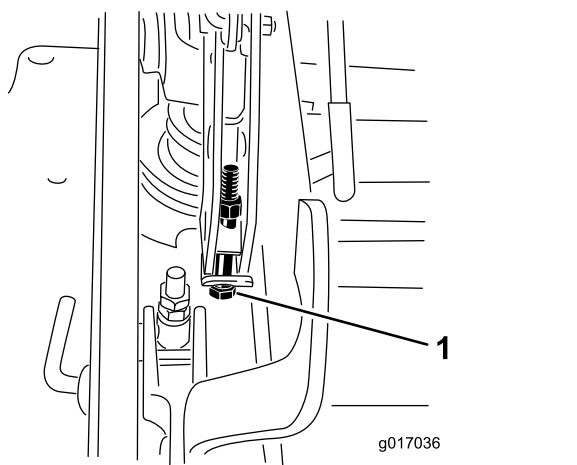

Figure 90
13. If the deck is too low, tighten the single-point adjustment bolt by rotating it clockwise. If the deck is too high, loosen the single-point adjustment bolt by rotating it counterclockwise (Figure 90).